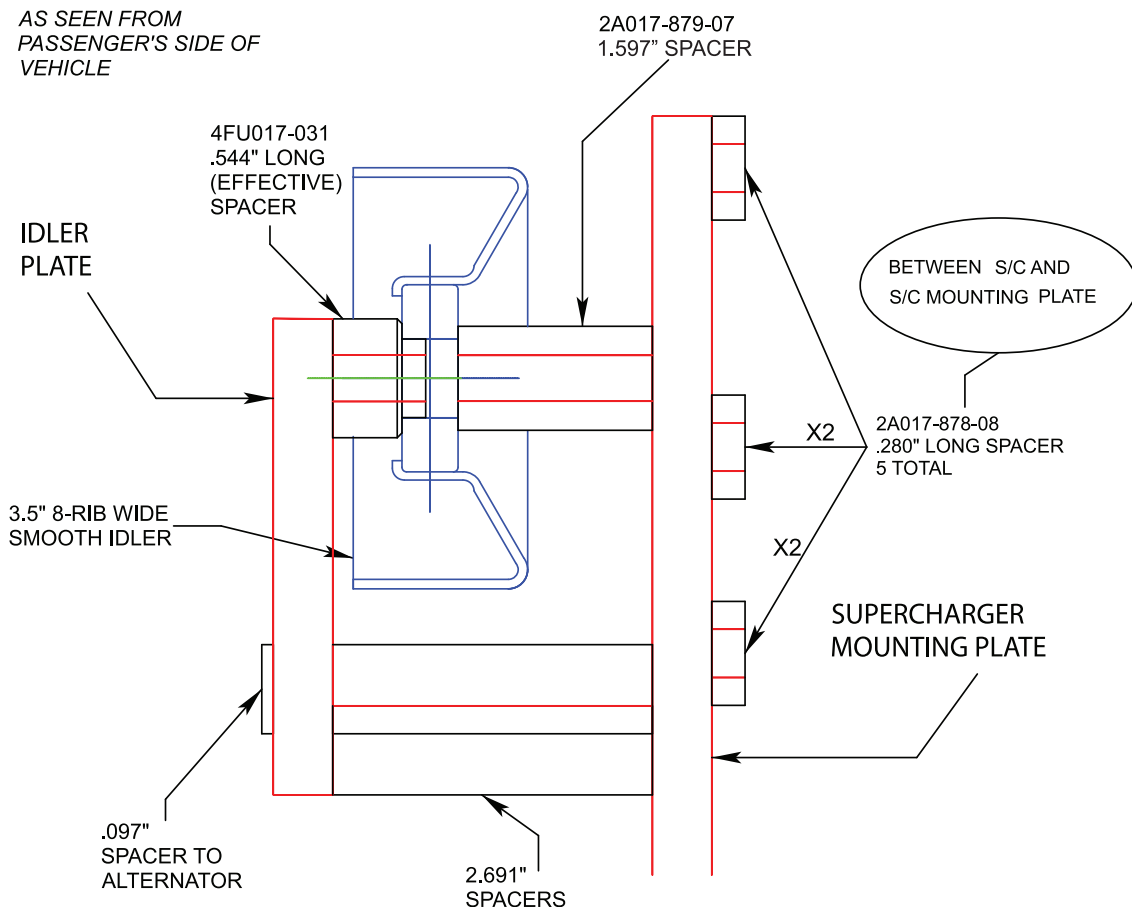

Fig. 6.1-d
6. Install the idler pulley assembly referencing Figs. 6.1-d, 6.2-a.